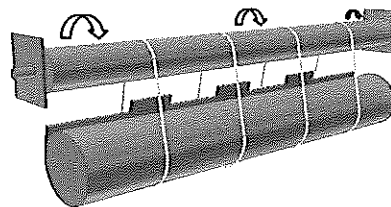

FIGURE 8A. *Curtain in Slings*
- Lift the coil until it is just below the shaft. Using appropriately rated ropes or straps, sling the coil from the shaft as shown in **Figure 8A**. Uncoil the curtain enough for the fastening sections to reach the attachment points on the shaft; fasten them using the corresponding method listed in **Step 4**.